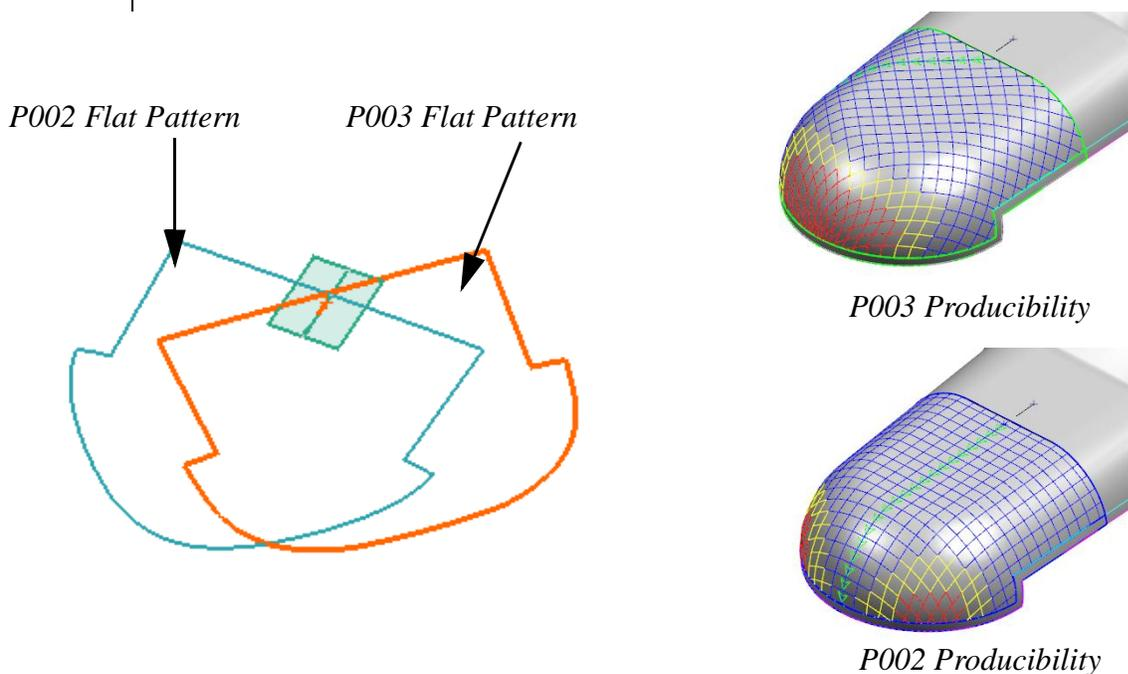

Figure 4–7
5. Create a Net Flat Pattern of **P003**. The results display as shown in Figure 4–7. **P002** Producibility is shown for comparison purposes.